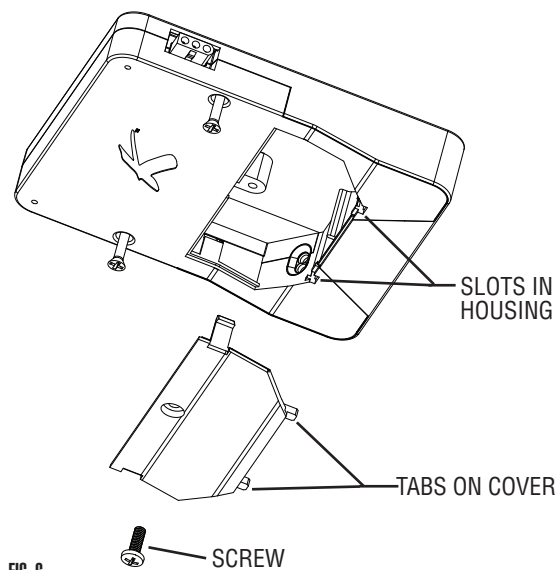

FIG. 6
- Install wire module cover over exposed wires by aligning the front tabs with the slots in the housing and snapping cover into place. Firmly fasten the cover to the housing by using the included screw. (See Fig. 6)